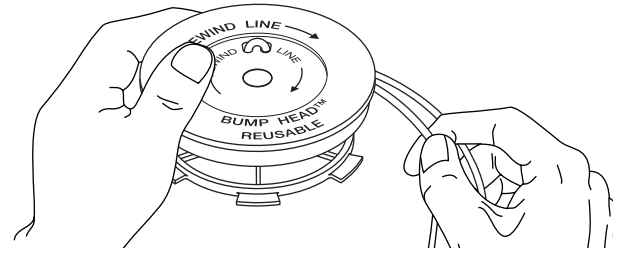

Fig. 17
- Wind the lines in tight even layers, onto the reel (Fig. 17). Wind the line in the direction indicated on the inner reel. Place your index finger between the two lines to stop the lines from overlapping. Do not overlap the ends of the line. Proceed to step 11.
1. Remove the four (4) screws securing the air filter/muffler cover (Fig. 17). Use a T20 Torx bit screwdriver.